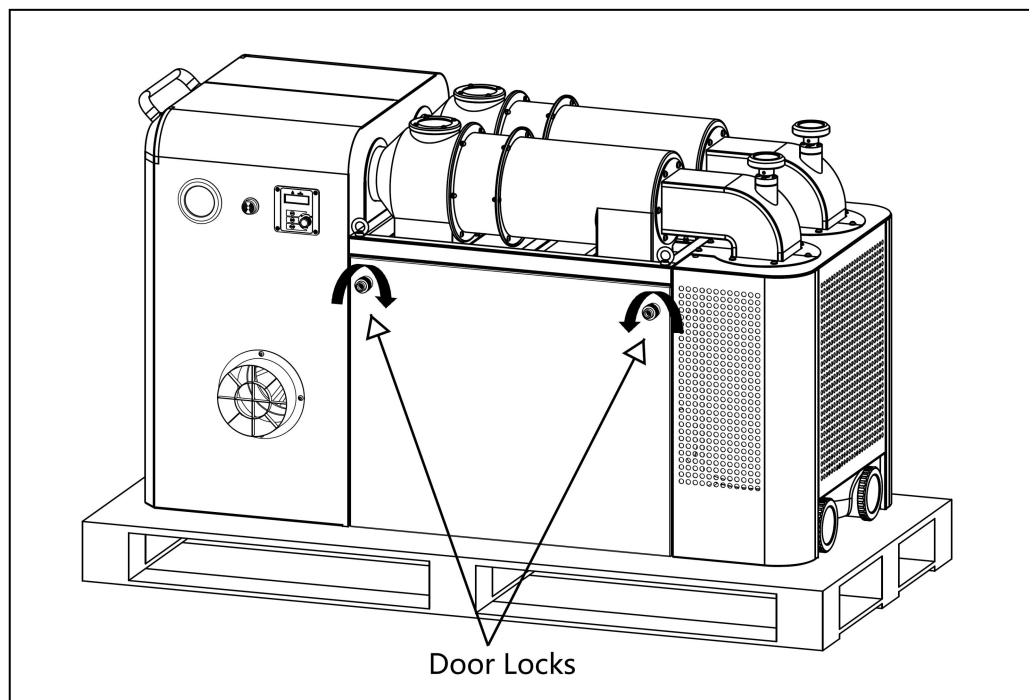
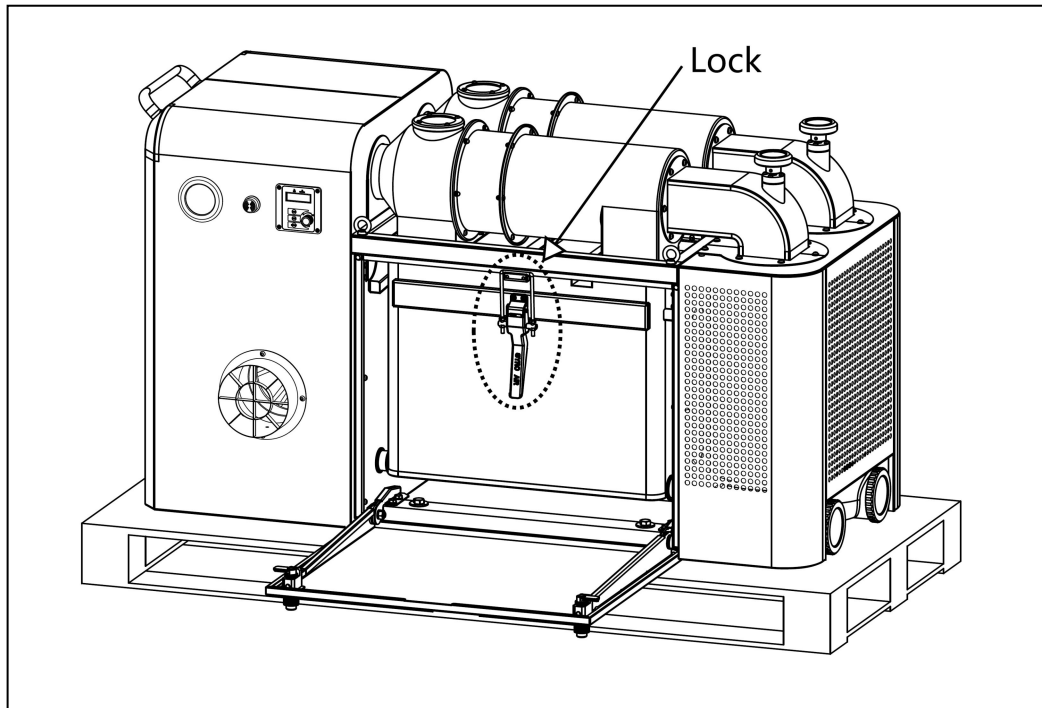

Fig.6
Fig.7
1. Remove the package box, keep the base unit on the pallet. As **Fig.6**
2. Rotating the knobs as arrow indicated (**see Fig.6**) to open the door. Then release the dust bin (**see Fig.7**), you can slide the dust bin out.
Rotate the knobs as the arrow indicates (**see Fig.6**) to open the door. Release the dust bin (**see Fig.7**), you can slide the dust bin out.